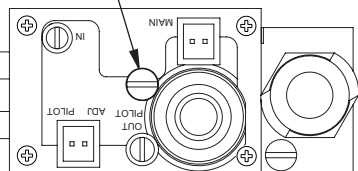

Figure 27 - Turning Equipment Shutoff Valve to the OFF Position
5. Turn equipment shutoff valve clockwise  to the OFF position (see Figure 27). Do not force.
6. Wait five (5) minutes to clear out any gas. Then smell for gas, including near the floor. If you smell gas, STOP! Follow "B" in the safety information. If you don't smell gas, go to the next step.
- Turn the adjustment screw marked PILOT clockwise to decrease or counterclockwise to increase the flame to proper size (see Figure 27, page 22). Do not remove the adjustment screw.